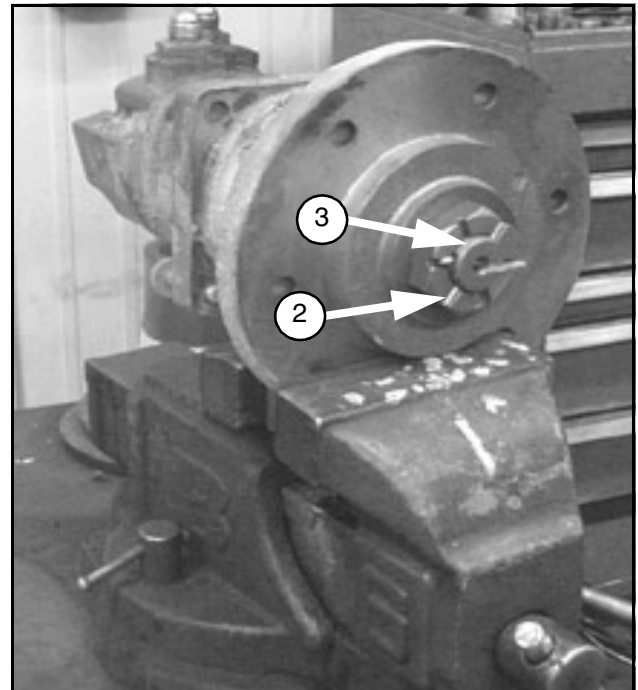

Figure 33.
3. Place the motor/hub assembly into a vice as shown in Figure 33.
4. Remove the cotter pin (2) and the motor nut (3).